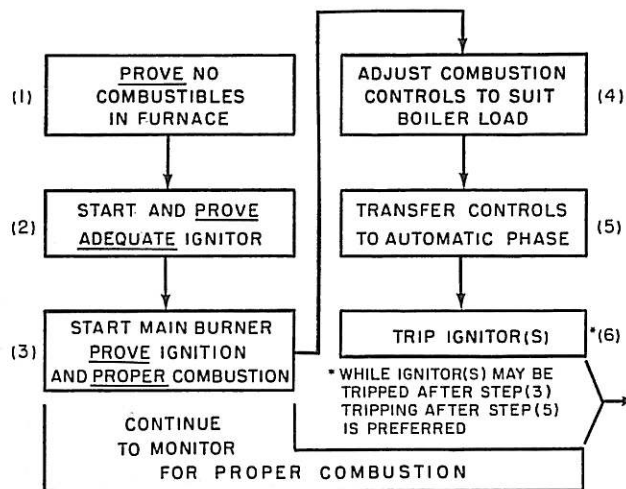

Fig. 1 Basic logic diagram applies to any system, any fuel, any burner. Actually performing steps in each box will require many added functions
Step 4. With these attitudes in mind the development of a logic diagram can begin. This is a diagram like Fig. 1 that spells out each step in the sequence of operation in one-syllable words. No magic symbols are needed and even the Chairman of the Board should be able to understand it.